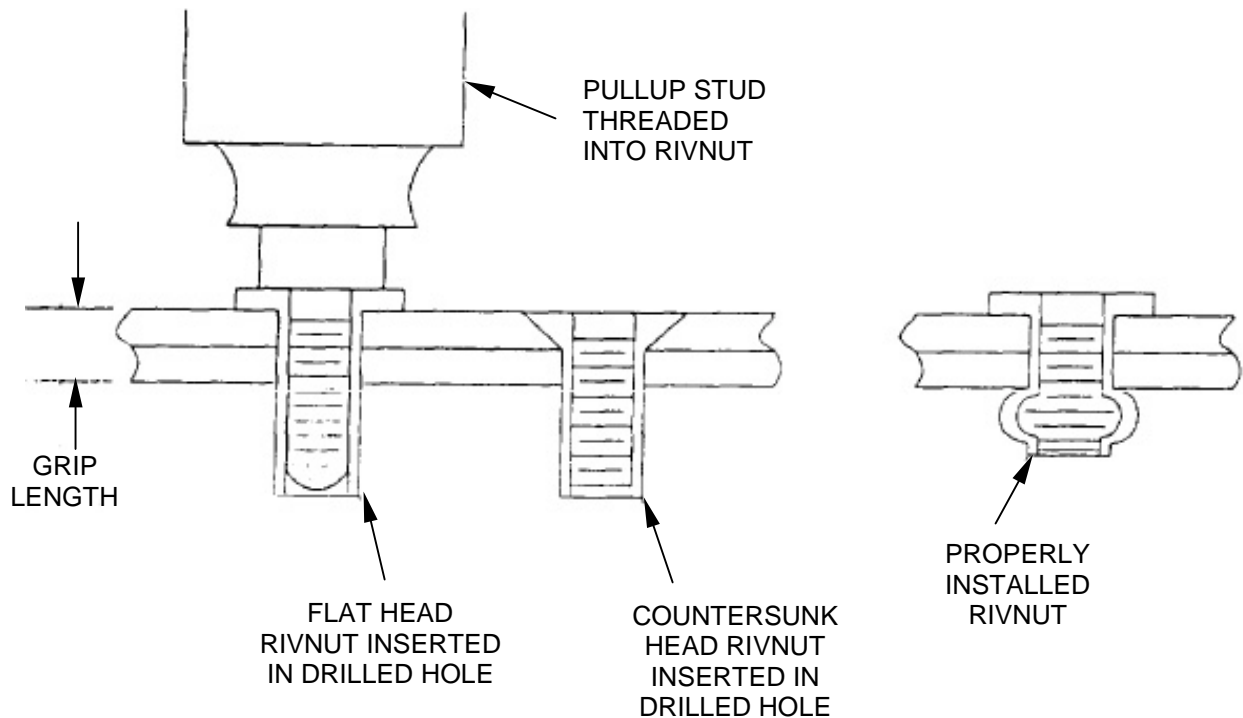

Figure 4-25. Rivnut Installation
(1) Installation (figure 4-25)